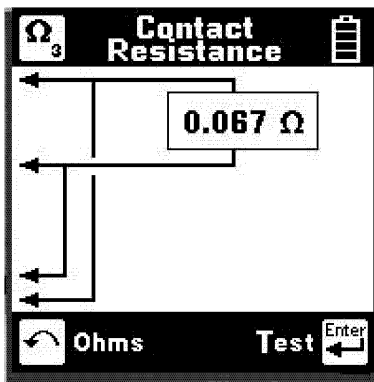

Figure 7. AST900 Contact Resistance Display
- (1) Rising resistance in the active box typically indicates moisture present and falling resistance indicates corrosion.
29. 900AST WIRE TESTING: CONTACT RESISTANCE (BONDING TEST) (Figure 7).
c. Connect the Red and Blue test leads to one side of the circuit and the Green and Yellow test leads to the other side of the resistance to be measured (see Figure 7).